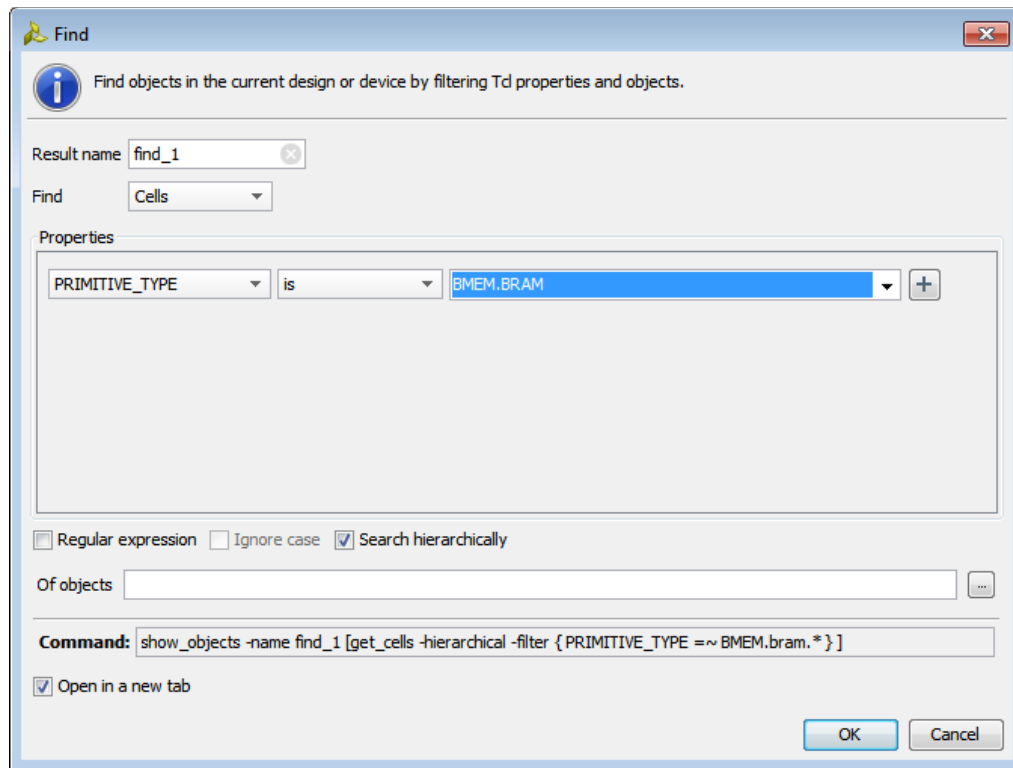

Figure 32: Find dialog box
- Select **Edit > Find** to open the Find dialog box, seen in Figure 32.